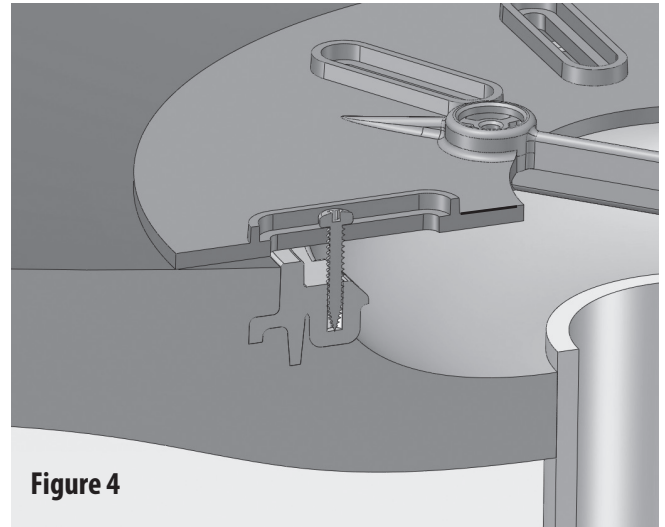

Figure 4
4. Align the drain cover support plate and ring over the ring or sump. The top of the outlet pipe should be recessed a minimum of 1 inch from the back of the plate (Figure 4).